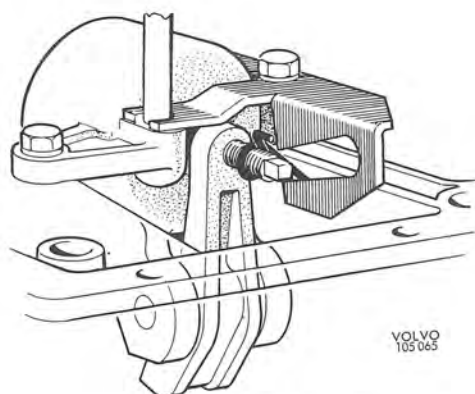

Fig. 4-121. Self-adjusting spring bolt cam
26. Adjust the location of the spring on the adjusting screw. It should be 1—2 threads from the lever. Remove the torque wrench and spacer block. Fit the cam. The long end of the spring sticks into the cam, see Fig. 4-121.